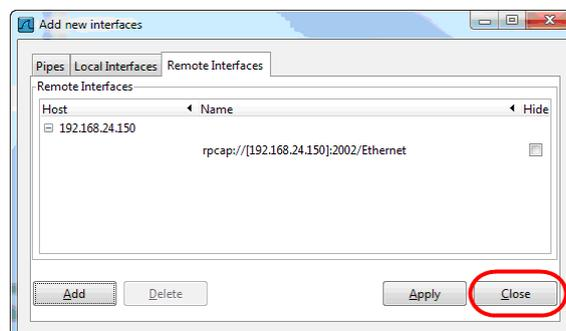

Figure 58: Added new interface to Wireshark.
7. If the connection to the device was established successfully, the **Remote Interfaces** list will be updated with information about all capture ports available on the device as shown in Figure 58.